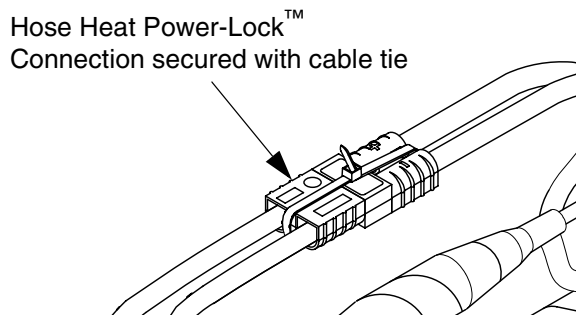

FIG. 10: Hose Connection (step d)
- d. Plug in Power-Lock™ hose heat connectors. Secure connection with cable tie provided; failure to do so will disrupt hose heat system if connectors separate. See FIG. 10